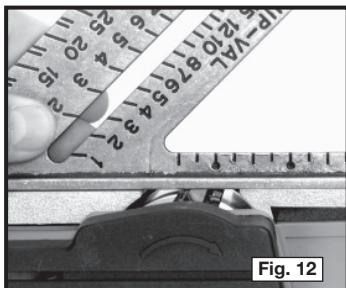
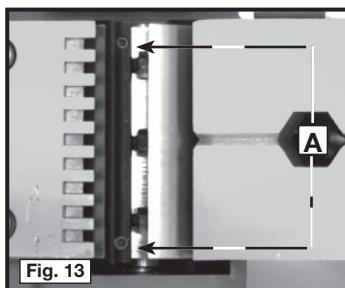

Fig. 12
Fig. 13
The pressure bars are aligned at the factory so that the blade's cutting edge is level with the rear shoe (Fig. 12). To adjust, slightly loosen the clamping screws (A) Fig. 13. Make the appropriate adjustment. When done, firmly tighten the clamping screws.